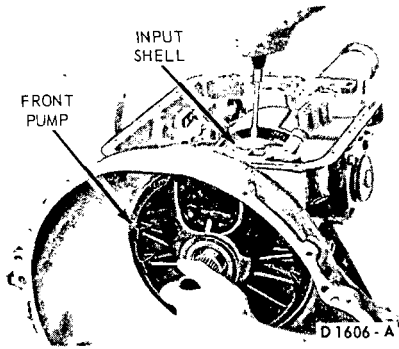

FIG. 33—Removing Front Pump
9. Remove the front pump attaching bolts. Pry the gear train forward as shown in Fig. 33 to remove the pump.